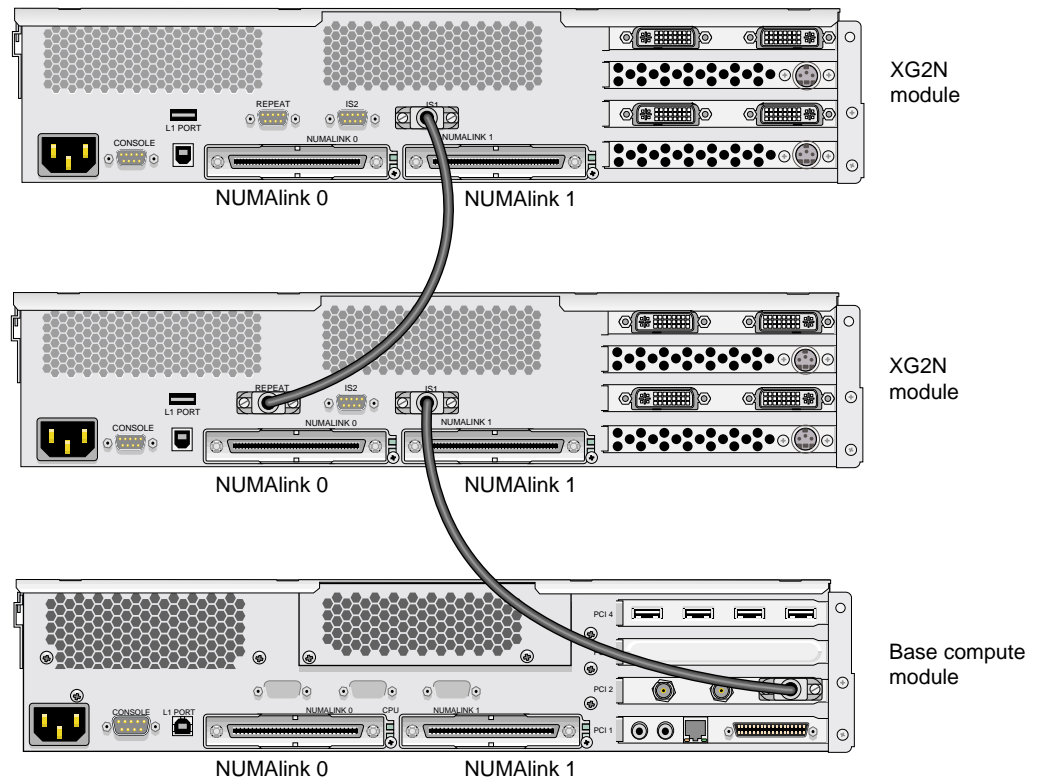

Figure 1-11 Cabling Example of SGI ImageSync Card to Graphics
2. Daisy-chain the SGI ImageSync cable from this first XG2N to any additional graphics modules in your system by connecting an ImageSync DB9-to-DB9 cable from the **Repeat** connector (located above the **NUMAlink 0** connector) and routing it to the ImageSync connector (labeled **IS1**) on the back of the next XG2N graphics module, as shown in Figure 1-11.
Note: Figure 1-11 is intended only to show an example of how the ImageSync cables connect. Your system may be configured differently.